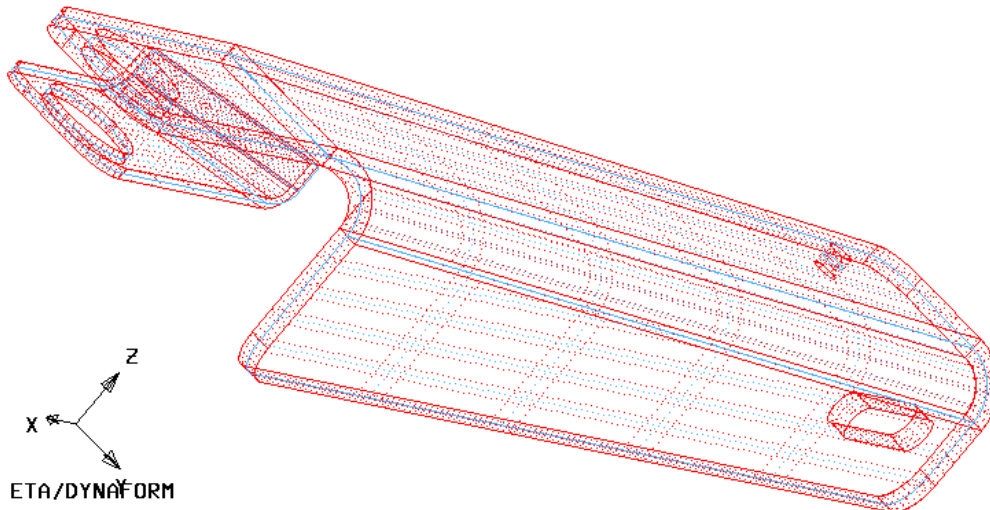

Figure 5.2.5 Mid Surfaces
2. After selecting the entire surfaces, the program will generate the mid surface automatically as Figure 5.2.5 shown. At the same time a new part named MIDSRF is created and all the created mid surfaces are placed in this part.